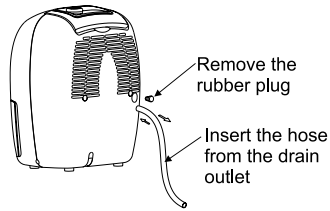

Fig. 5.
- Insert the water hose into the unit from the drain outlet in the back of the unit as shown in Fig.5. Make sure the connection of the water hose and the drain hose outlet of the unit is tight and do not let the water leak.